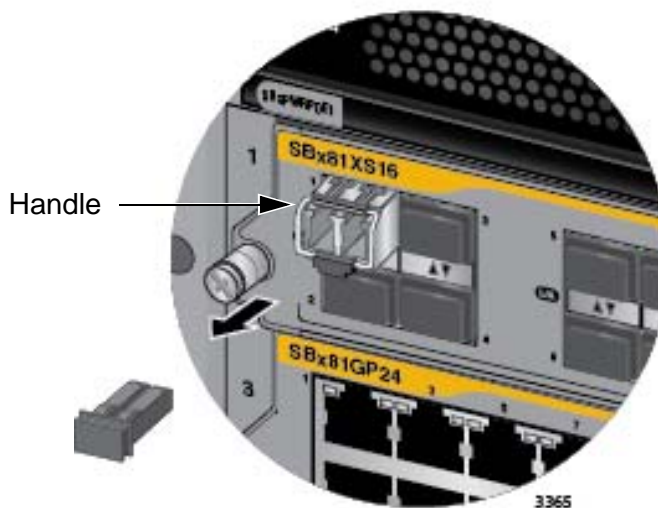

Figure 99. Verifying the Position of the Handle on the Transceiver in the AT-SBx81XS16 Line Card
4. Before connecting the cable, verify the position of the handle on the transceiver. If the transceiver is in an odd numbered slot, the handle should be in the upright position, as shown in Figure 99. If the transceiver is in an even numbered slot, the handle should be in the down position.